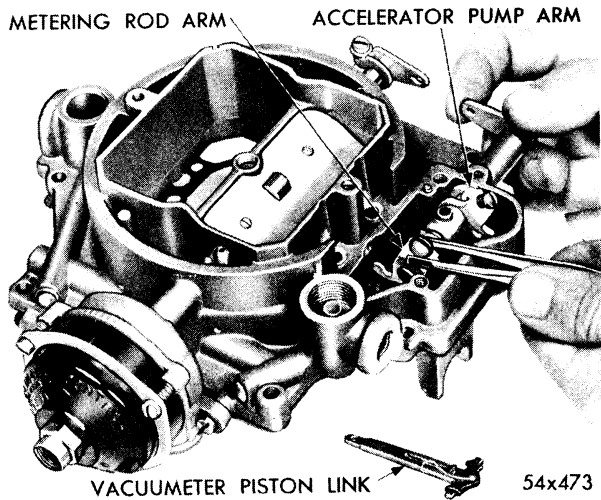

Fig. 15—Removing or Installing Metering Rod Arm
(12) Slowly withdraw shaft and lift out metering rod spacer and accelerator pump arms, as shown in Figures 15 and 16.